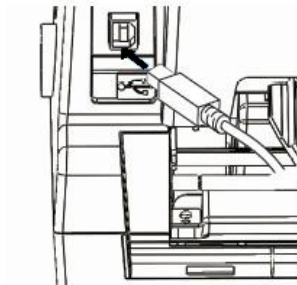

Fig. 1-12
- 2) Connect USB cable(square shape) to the USB port of the printer as Fig. 1-12